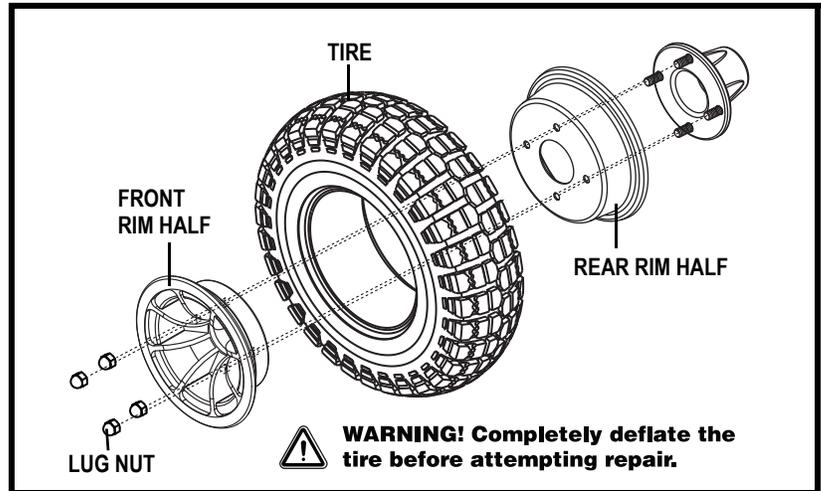

Figure 19. Quantum/Jazzy 1450 Series Drive Wheel Disassembled
6. Remove the screws and separate the front and rear rim. See figure 19.
10. Reinstall the four (4) lug nuts onto the wheel hub and tighten.